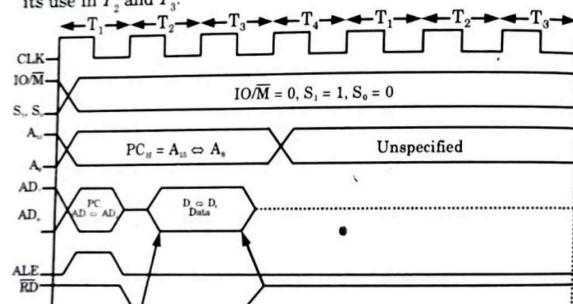
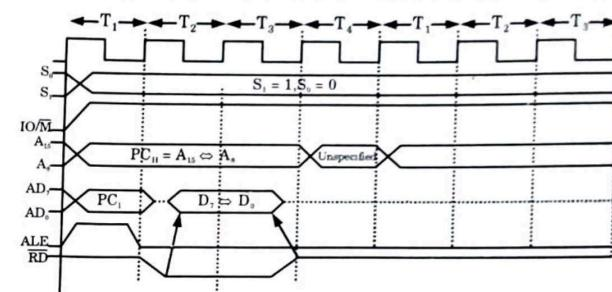

Fig. 2.8.1. Memory read timing diagram.
Fig. 2.8.2. I/O read timing diagram.
2. The timing diagram for $\overline{IO/M}$ read are shown in Fig. 2.8.1 and Fig. 2.8.2. $A_{15} \Leftrightarrow A_8$ remains valid in T_1 , T_2 and T_3 i.e., duration of the bus cycle, but $AD_7 \Leftrightarrow AD_0$ remains valid only in T_1 .